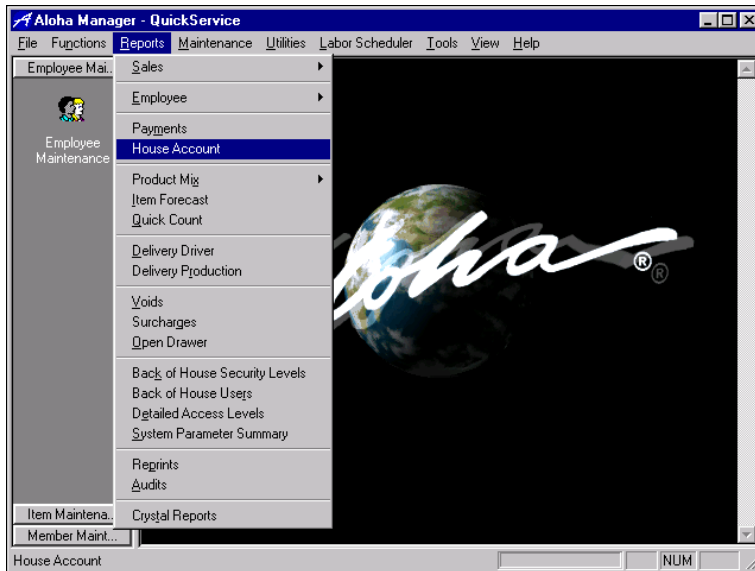

Figure 2-21 House Account Invoice Path
1. Select **Reports > House Accounts**, as shown in Figure 2-21: